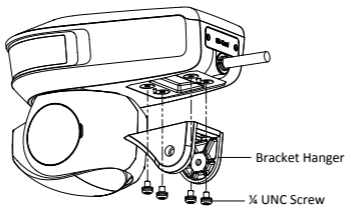

Figure 2-6 Fix the Bracket Hanger
2. Fix the bracket hanger to the camera with four 1/4 UNC screws as shown in Figure 2-6.